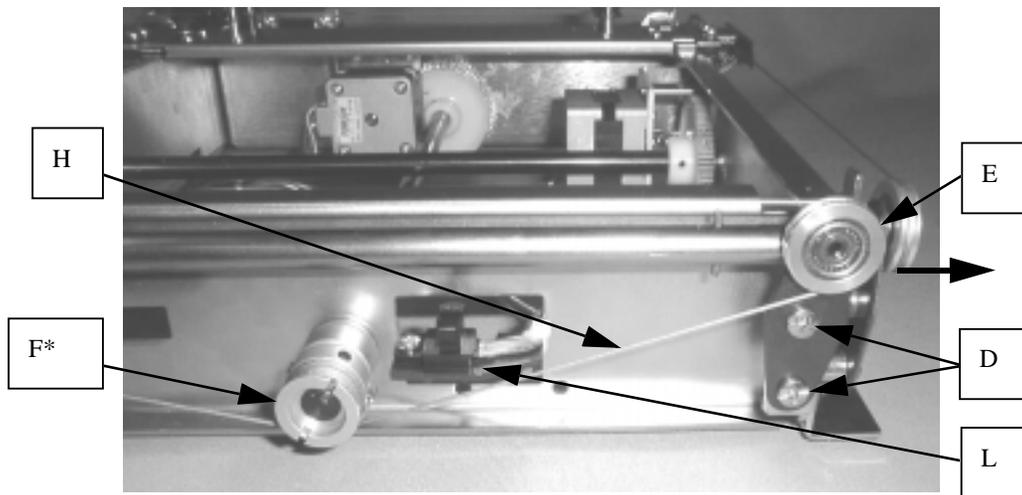

FIGURE 16-8
12. Turn wire (H) counterclockwise by six and half turns on the sensor (L) side pulley (F\*) while closely attaching the wire to pulley (F\*), apply it to wire pulleys (E) in the order of the right and left sides, and mount ball(R) to cut (P\*) as shown in Fig.16-8.
13. Bring the wire pulley (E) shown in Fig.16-8 in the arrow direction to eliminate the looseness of the wire, and tighten setscrews (D) lightly.